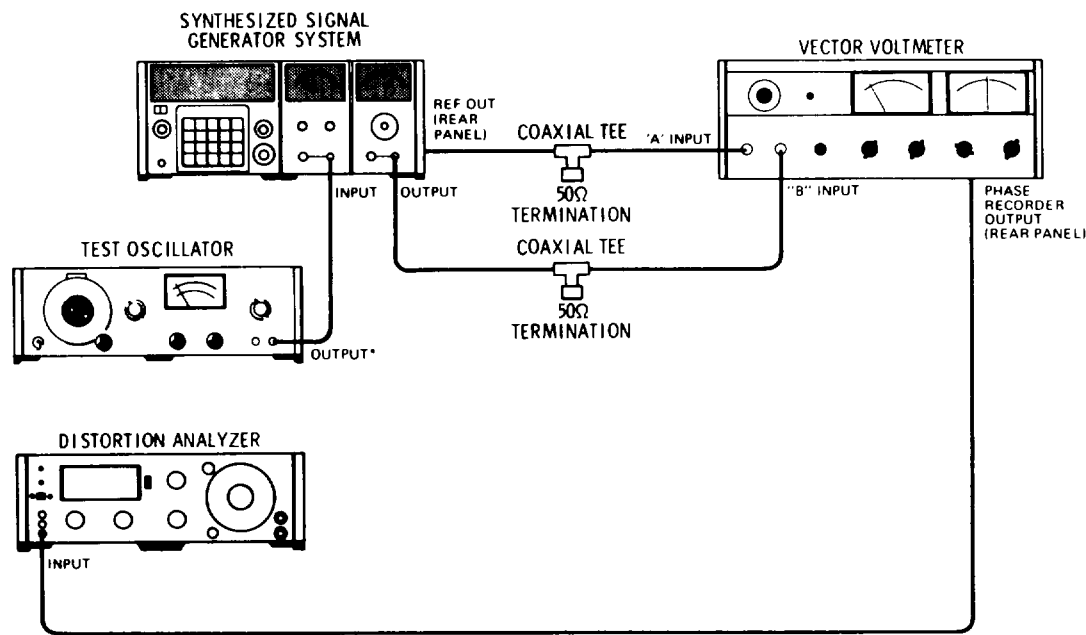

Figure 4-17A. Phase Modulation Distortion Test Setup
3. Connect the instruments as shown in Figure 4-17A.